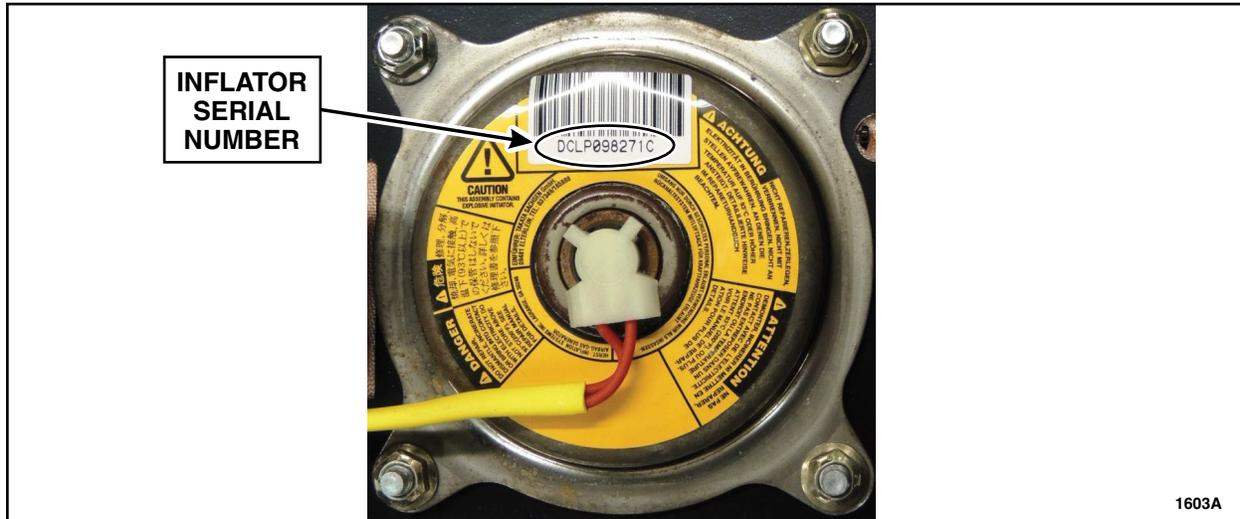

FIGURE 2
5. Record the 11 character serial number of the new airbag inflator on the repair order. See Figure 2.